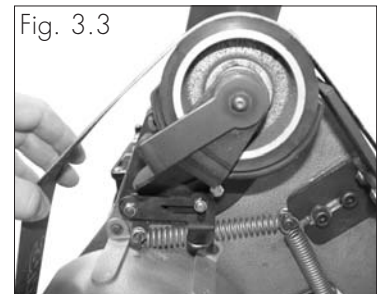

Fig. 3.3
2. Push or pull any part of the belt applying force to engage the locking catch as in fig 3.3.